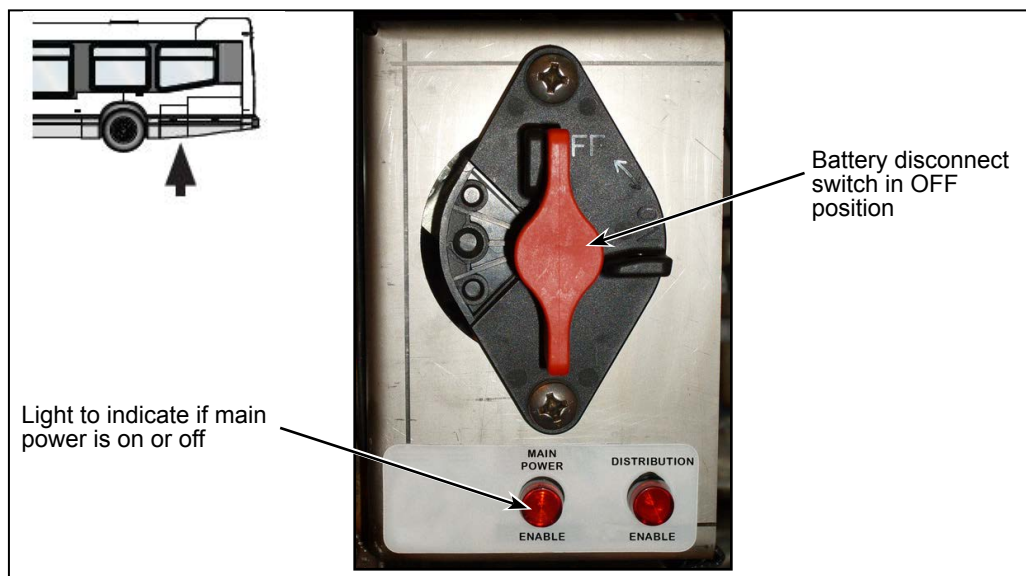

Figure 2 - Battery Disconnect Switch
- 1.2. Open the battery compartment access door and put the battery disconnect switch in the OFF position. The ENABLE light should extinguish. See Figure 2.